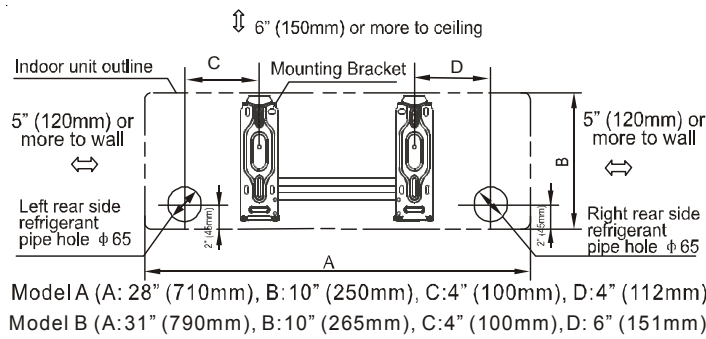

Figure 5A
- Determine the hole positions according to the diagram detailed in Figures 5A & 5B. Drill one (1) 2.5" hole ( $\phi 65\text{mm}$ ), slanting slightly to the outside.